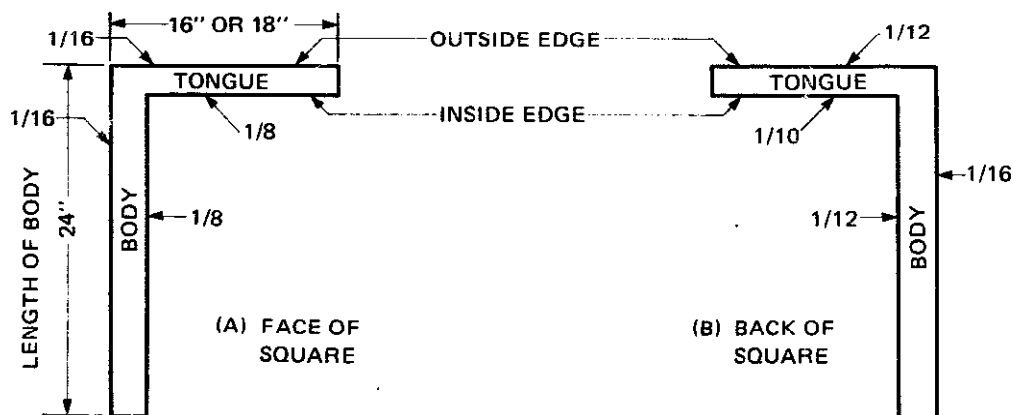

Fig. 3-2 Graduations found on a framing square
The face of the square is identified in two ways. It is either (1) the side which bears the manufacturer's stamp, or (2) the side which is seen when the body of the square is held in the left hand and the tongue in the right. The graduations on the face are in eighths and sixteenths. The eighths are found on the inner edge; the sixteenths are found on the outer edge. The graduations on the back of the square are in tenths, sixteenths, and twelfths. The outside edges are graduated in twelfths. The inside edge of the body is graduated in sixteenths and the inside edge of the tongue is graduated in tenths. (See figure 3-2.)